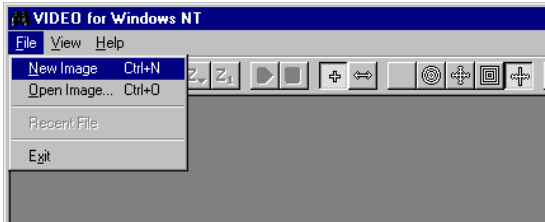

Figure 4-4. Create new video image
2. Click File > New Image to open a new file (Figure 4-4).